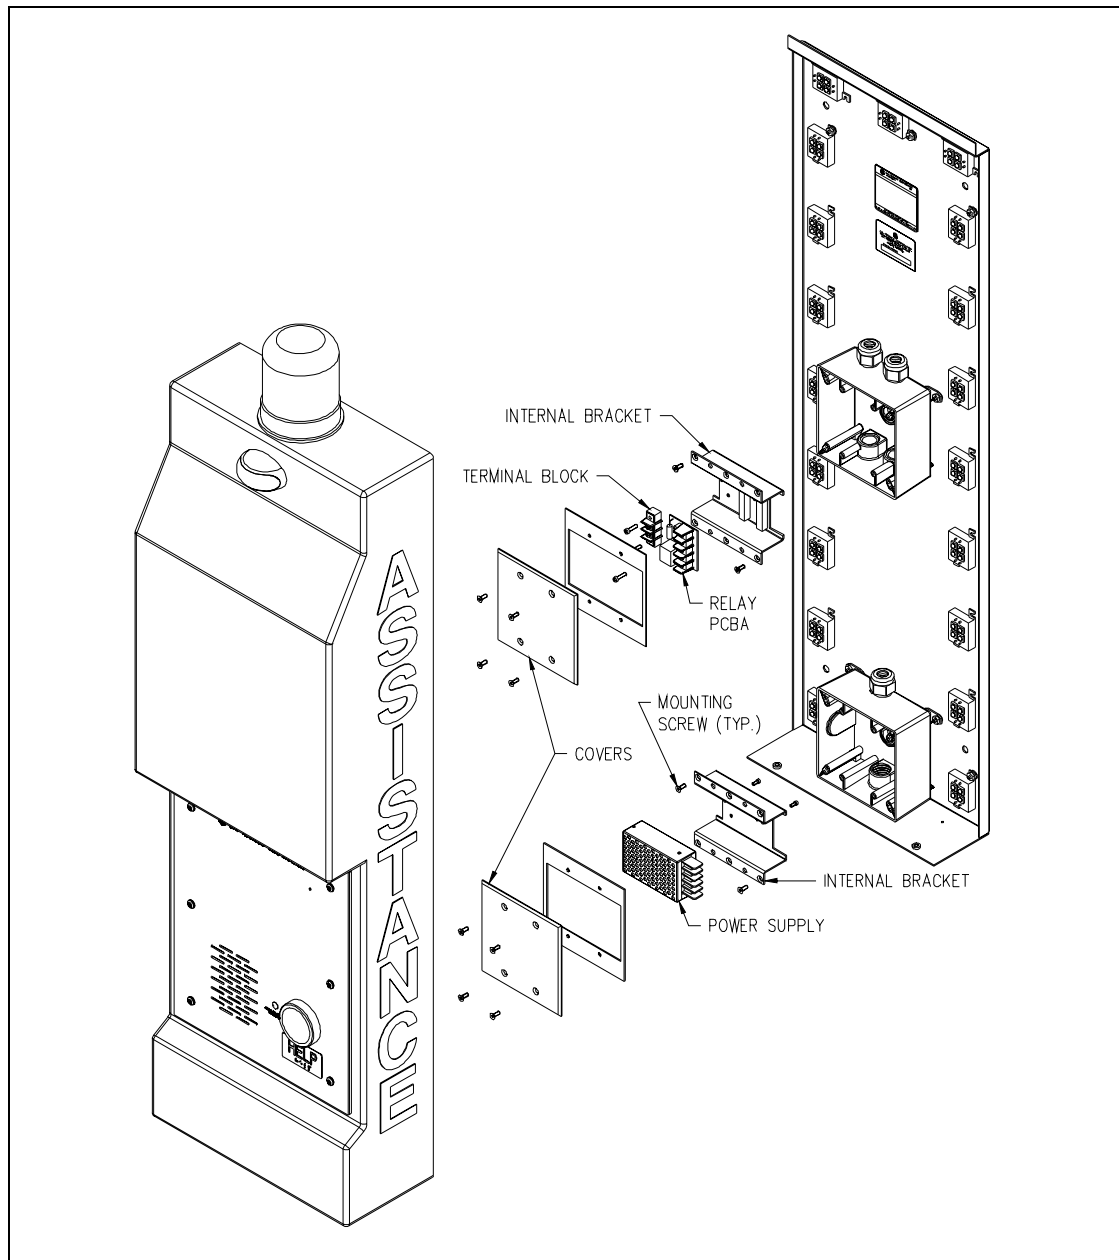

Figure 7. Power Supply - Exploded View
4. To attach the incoming ac power to the power switcher, remove the two screws holding the internal mounting bracket. The switching power supply is attached to this bracket. Connect incoming ac power to the corresponding connection point on the power switcher (H = black, N = white, ground symbol = green). Refer to Figure 7.